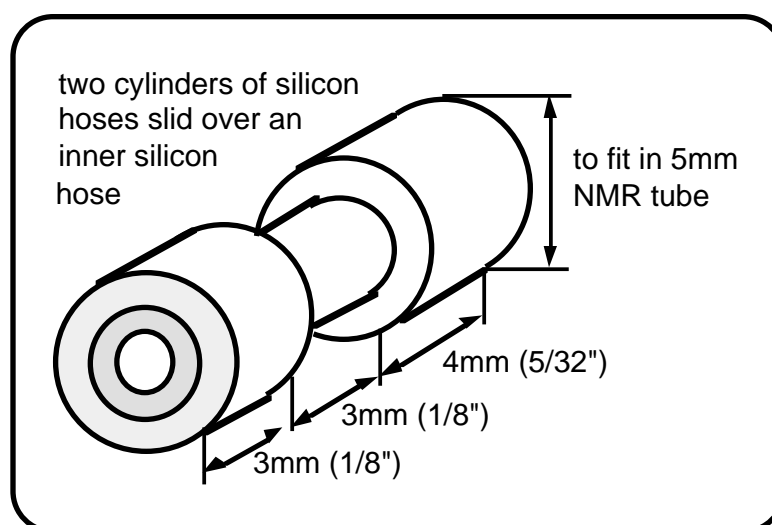

Figure 132. Phantom Setup for BP Imaging
To obtain the first BP image, you might want to use a phantom setup such as the one shown in Figure 132.
3. Slide the larger diameter pieces onto the smaller diameter piece, as shown in **Figure 132**. Friction should hold the pieces in place.